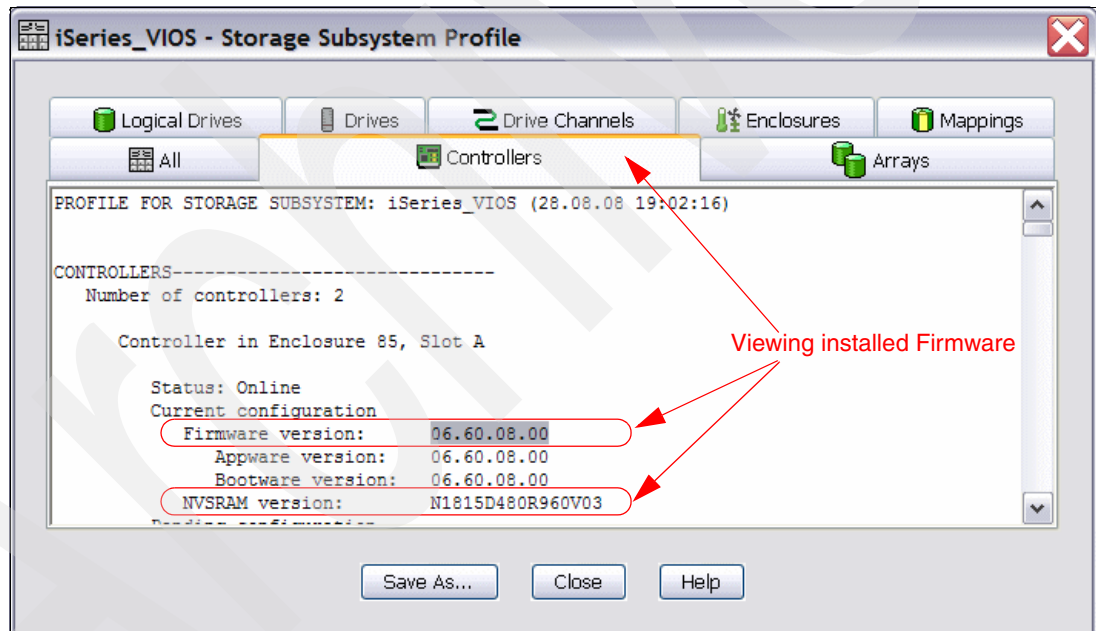

Figure 9-5 Viewing firmware and NVSRAM versions
2. Click the **Controller** tab to display a window, as shown in Figure 9-5. This gives the controller firmware and NVSRAM version installed.